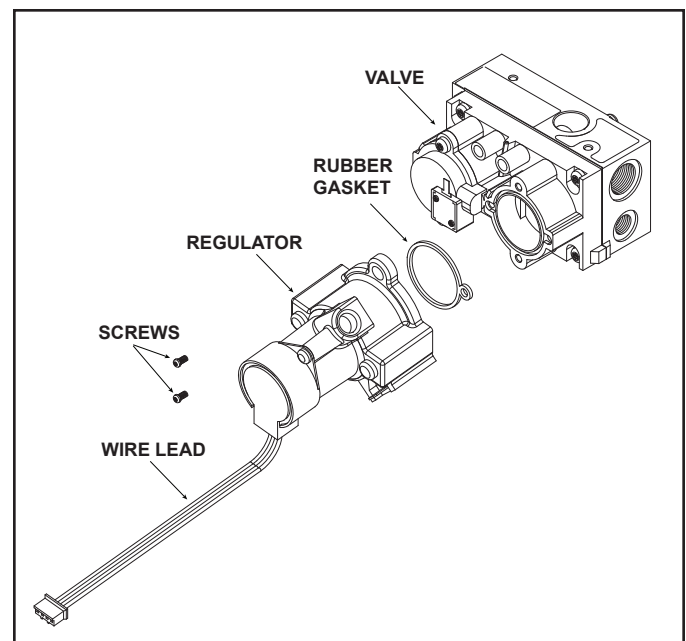
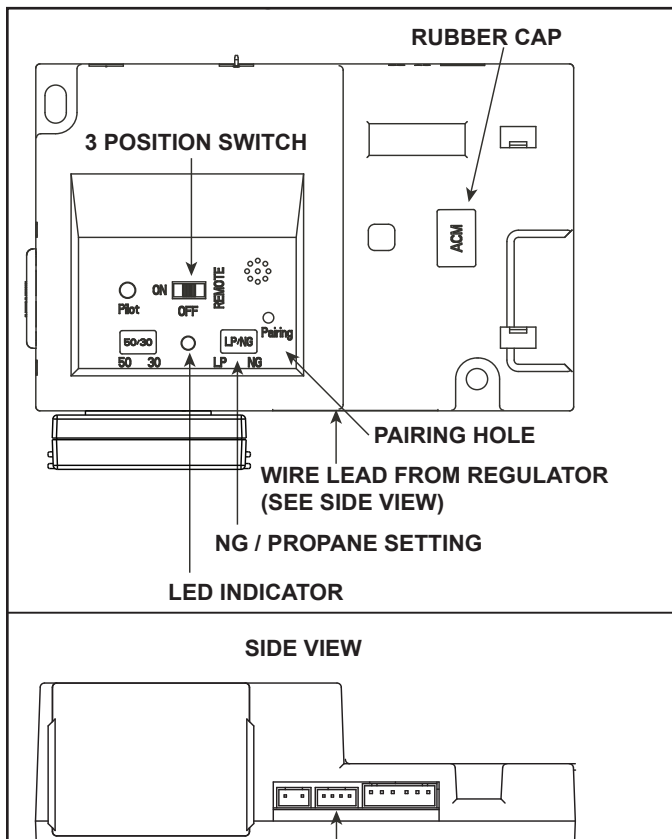

Figure 1
Figure 2 Module - IntelliFire® Touch
1. Switch control module to OFF mode using selector switch. See Figure 2.
6. Using a #20 tamper-proof Torx, remove the regulator and rubber gasket on face of valve. See Figure 1. Disconnect wire lead from module. See Figure 2. Discard both the regulator and gasket.
7. Install the new regulator with the new rubber gasket included in the conversion kit. Be sure the gasket is seated properly. See Figure 1. Connect the wire lead from the regulator to the module. See Figure 2.
8. Remove the rubber switch cover from the NG/Propane switch on the module. Set the switch to the appropriate gas and replace the cover. See Figure 2.